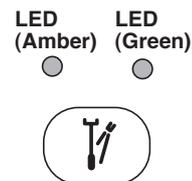

Fig.3-11 Coolant Water ON/OFF Switch
⑧ Coolant Water ON/OFF Switch (Fig.3-11) **E**